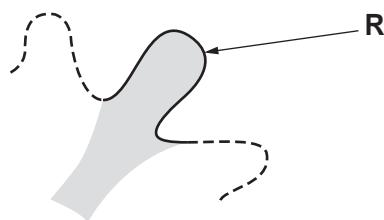

Fig. 2.1
- a structure as shown by the shaded area and labelled R in Fig. 2.1